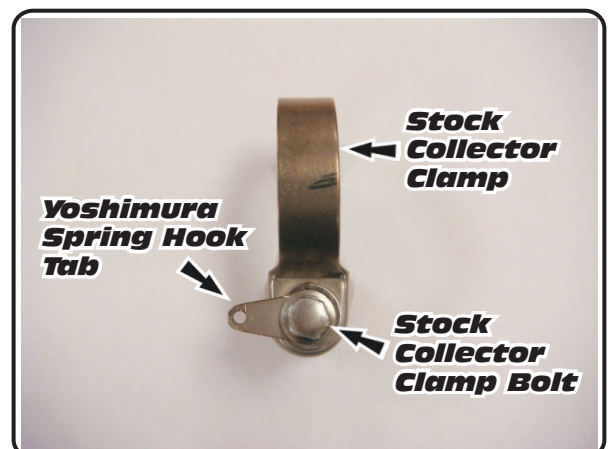

Fig. 3
- 6 Install the Yoshimura spring hook tab onto the stock collector clamp (see Fig. 3).